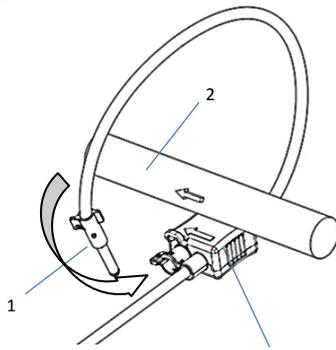

Figure 1
- To open the ART Rogowski coil, turn the bayonet catch (1) to the left (anti-clockwise) and draw the coil cable out of the enclosure.
- Make sure that the arrow on the ART (3) is pointing towards the load
- Guide the Rogowski coil around the power cable (2) (Fig. 1).